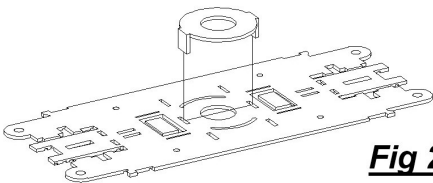

Fig 2
Remove the main bolsters (1) and central pivot bosses (2) from the etched sheet. Fold the two end tags on the pivot bosses at 90° and insert in the slots on the unfolded main bolsters from the plain side (Fig 2); lightly splay the tags outwards from the pivot hole to retain fully in position. Make sure that you have the pivot boss on the surface that will be the outer surface of the box; flux and solder from the tag side. Wash off flux residues, cut off the projecting tags, and sand / file flush.